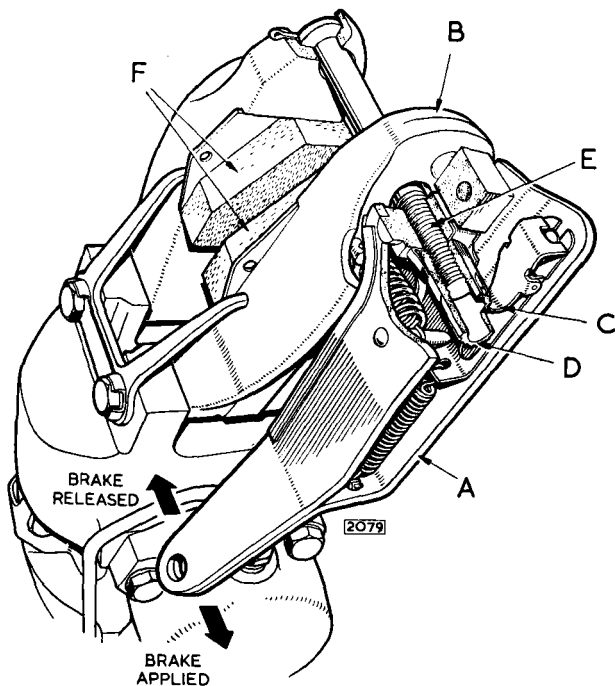

Fig. 24. Sectioned view of the adjusting mechanism.
When the handbrake lever in the car is operated, the operating lever (A, Fig. 24) is moved away from the friction pad carrier (B) and draws the friction pads (F) together. Under normal conditions when the lever is released the pawl (C) in the adjusting mechanism returns to its normal position, thus the normal running clearance between the brake disc and the friction pads is maintained.